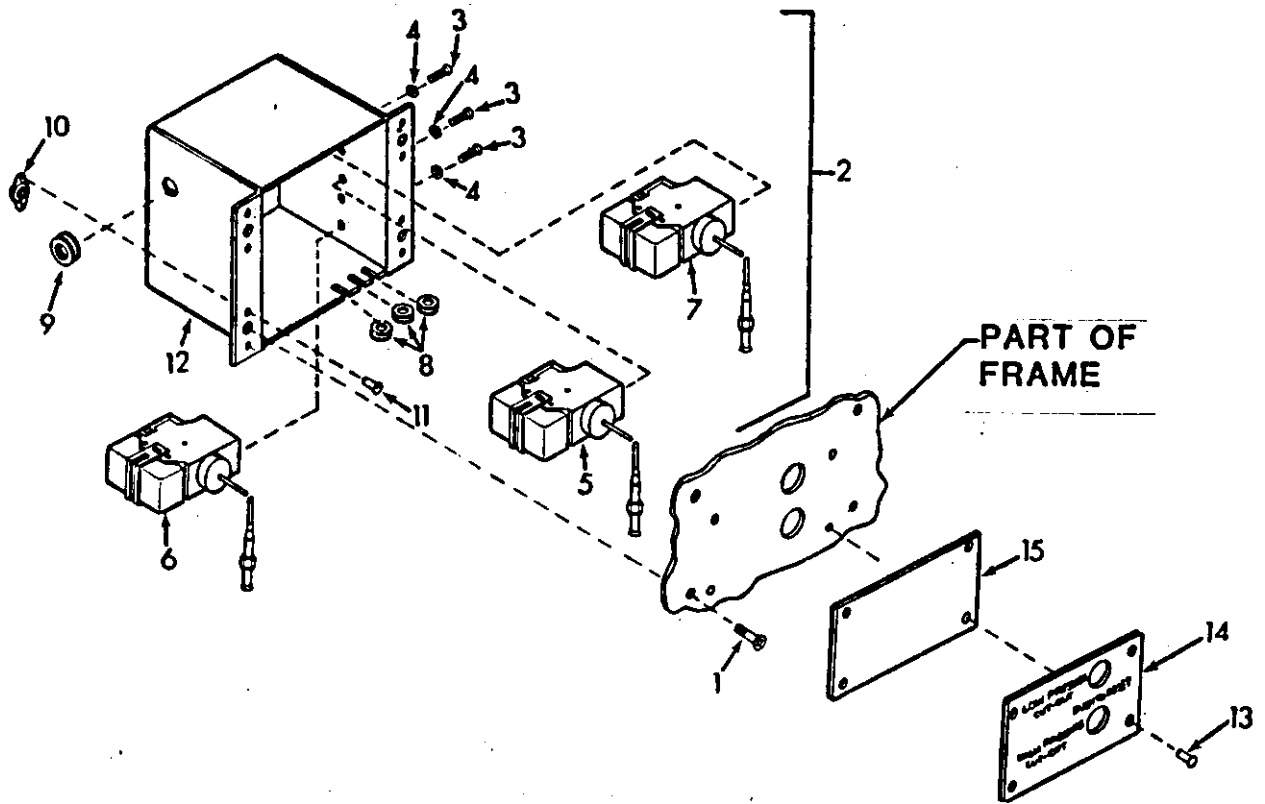

Figure 5-36. Pressure Switches (S4, S5, and S7)
(1) Disconnect or turn unit power off at power source. Take appropriate measures to be sure that it will not be turned on by others.
(2) Loosen nine retained screws and remove lower front panel assembly.
(3) Remove four screws and carefully pull pressure switch box assembly down into open area. (See figure 5-36.)
Legend for figure 5-36